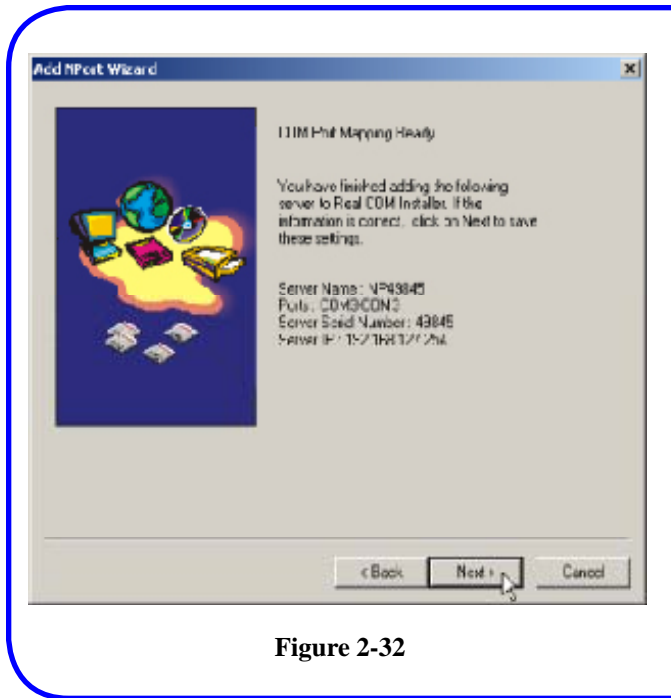

Figure 2-32
20. The **Com Port Mapping Ready** window opens. **Figure 2-32**
6. Select the COM port connected to the DigiPort™. (This was shown in the window that is in **Figure 2-32**)